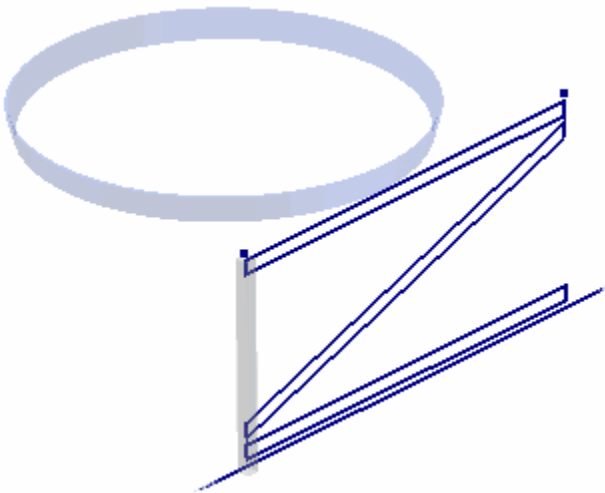

Figure 11: Frame layout part.
4. Derive SkeletonBase.ipt into the new part. Eliminate all geometry other than the FRAME SKETCH sketch. Your part should match the one shown in Figure 11.